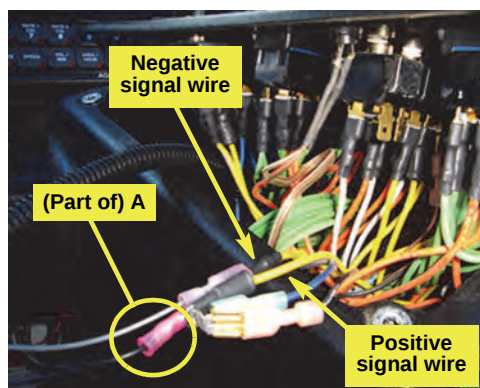

Figure 2d: Boom 1 signal wire connections
- d. Disconnect the positive and negative boom signal wires from boom switch 1 (Figure 2d). Connect the signal wires to the two corresponding wires of the interface cable A according to Table 1 (3-boom system) or Table 2 (5-boom system) on page 5. See also “Appendix - AC110 Cables and Connections” on page 7.